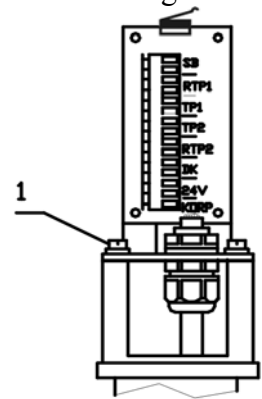

Fig.10.8
10.3.15 Install KSST-1 onto the upper part of the post and fix using screws 1 (Fig. 10.8).